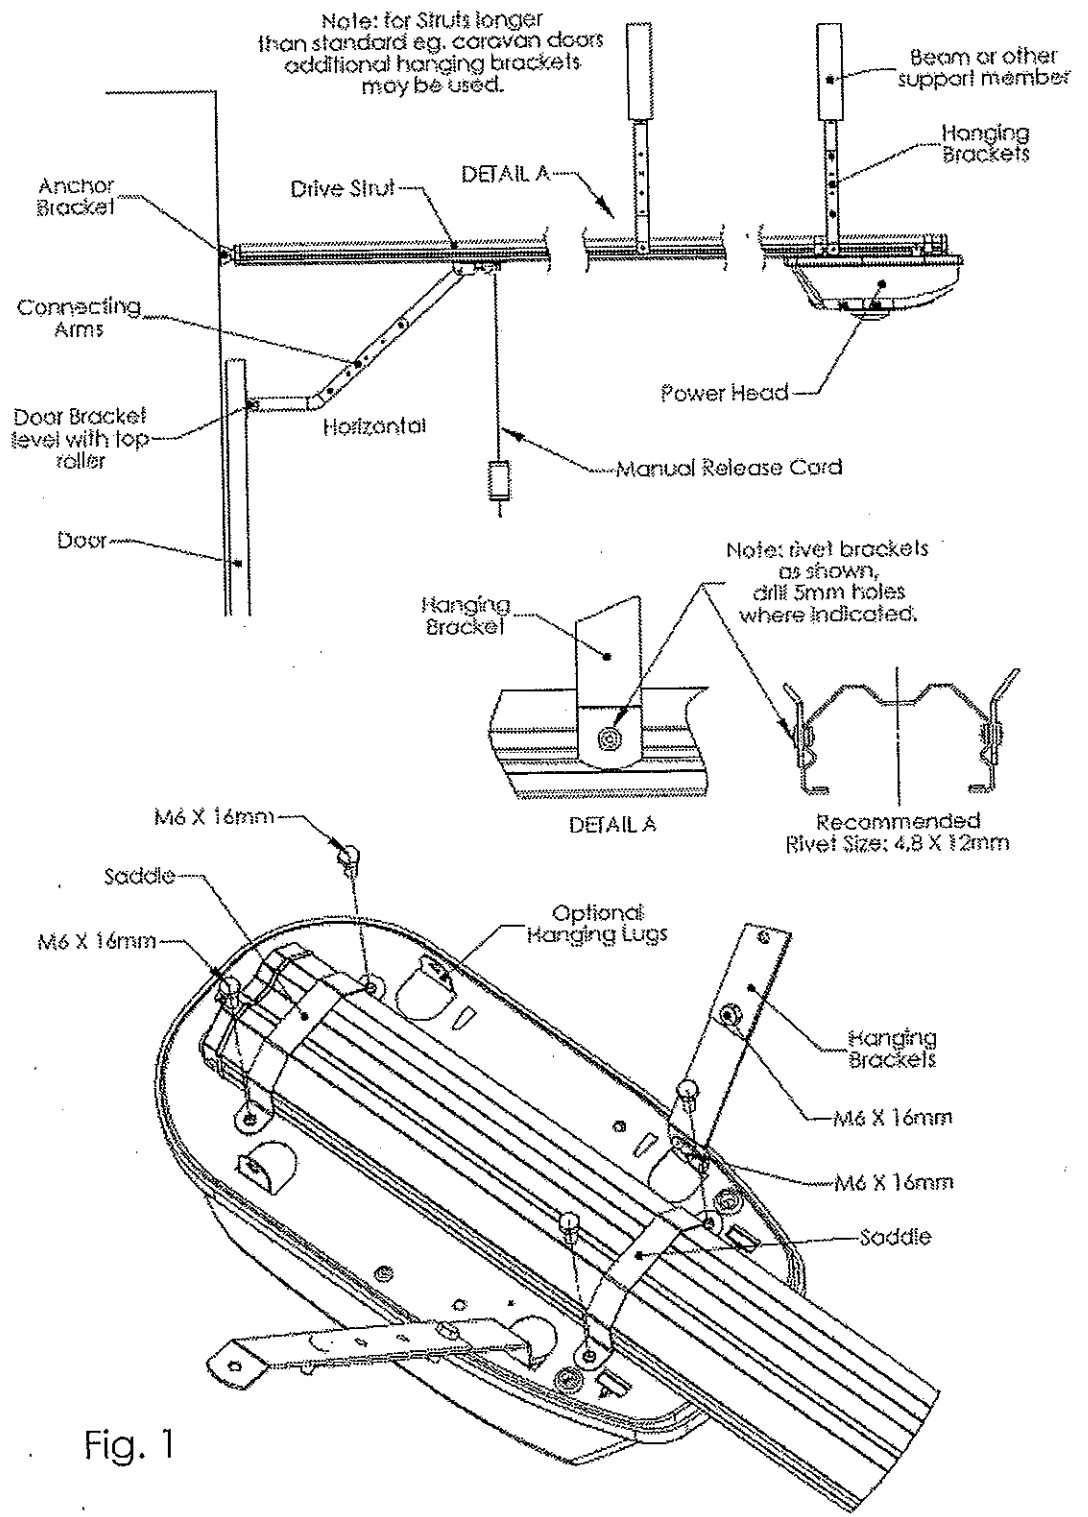

Fig. 1
2. While aligning the motor shaft with the sprocket, fit the strut to the power head. Fit the two mounting saddles and secure them with the M6 bolts provided. See page 7, Fig. 1.